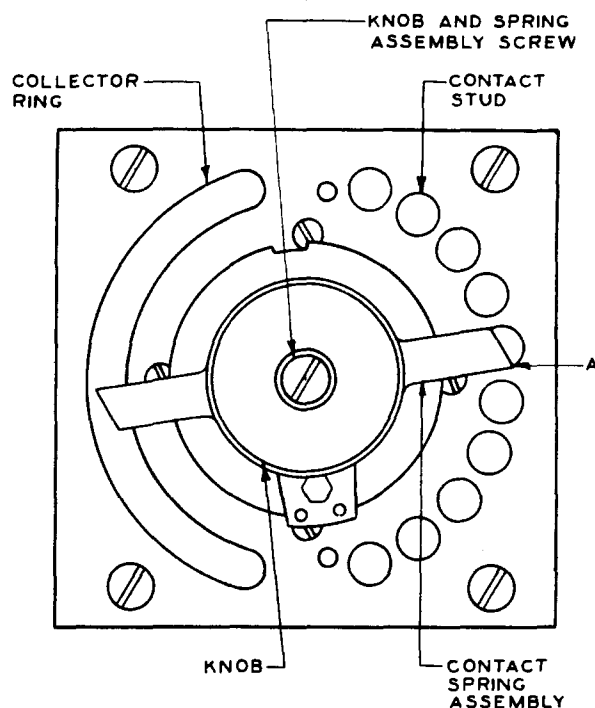

FIG. 2
(b) Fig. 2 (A) - The contact springs shall be approximately centrally located on each contact stud when the detent roller rests in the corresponding depression in the detent plate. This requirement applies for both clockwise and counterclockwise rotation of the switch. Gauge by eye.
(1) Remove the knob and spring assembly by removing the knob and spring assembly screw (Fig. 2) with the 4" regular screw-driver. Adjust the spring as required with a pair of duck-bill pliers. Reassemble on the switch. Repeat until requirement 2.02 (a) is met.
(5) When the contact pressure of any spring is less than the minimum allowable pressure, remove the knob and spring assembly screw (Fig. 2) using the 4" regular screw-driver. Remove the knob and spring assembly (Fig. 4) from the switch but do not loosen or remove the